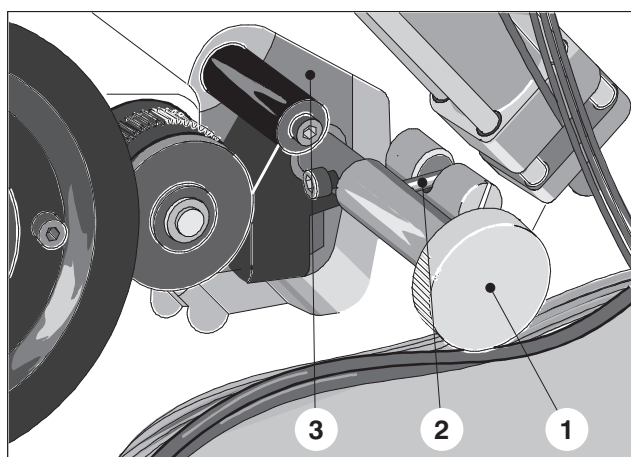

Fig. 31 Installed blanket washup device
13. Slide the blanket washup device through the opening in the side frame on O.S. (Fig. 31/3).
14. Push in the blanket washup device by the handle (Fig. 31/1) up to the stop. Turn the handle counterclockwise and allow the blocking piece on the pin (Fig. 31/2) to lock into place.